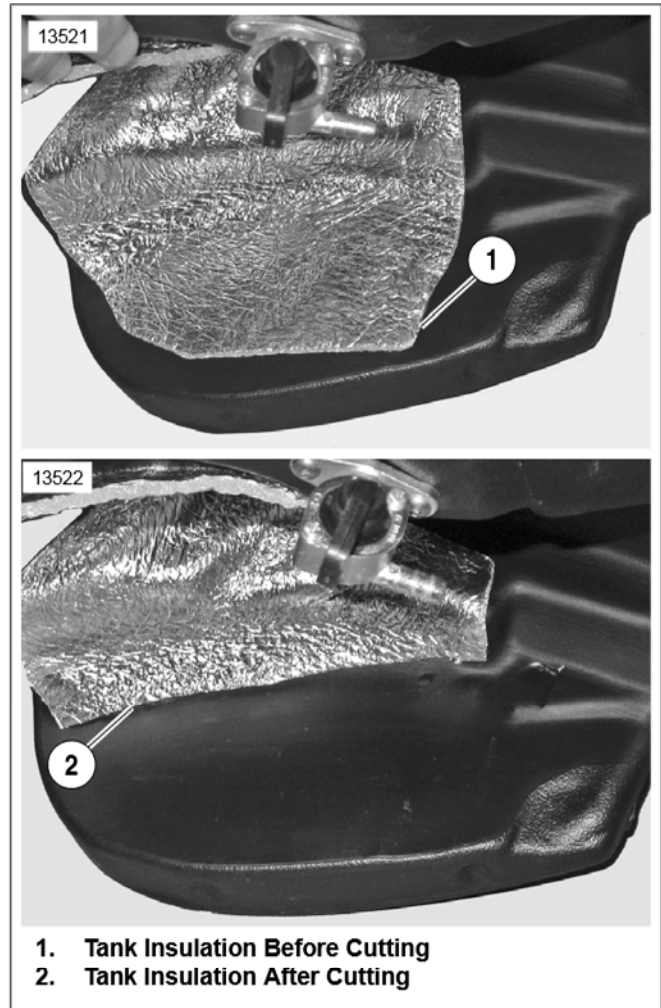

Figure 4. Fuel Tank Insulation
7. See Figure 4. Trim existing tank insulation to provide proper clearance to **new** bracket.